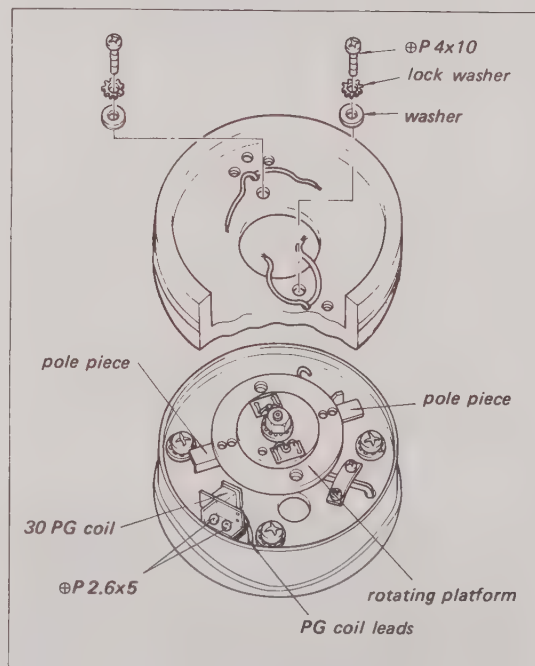

Fig. 5-5. 30 PG coil replacement
2. Remove the two P4 x 10 screws that secure the Upper Head-Drum Assembly to the rotating platform. Remove the Upper Head-Drum Assembly. See Fig. 5-5.